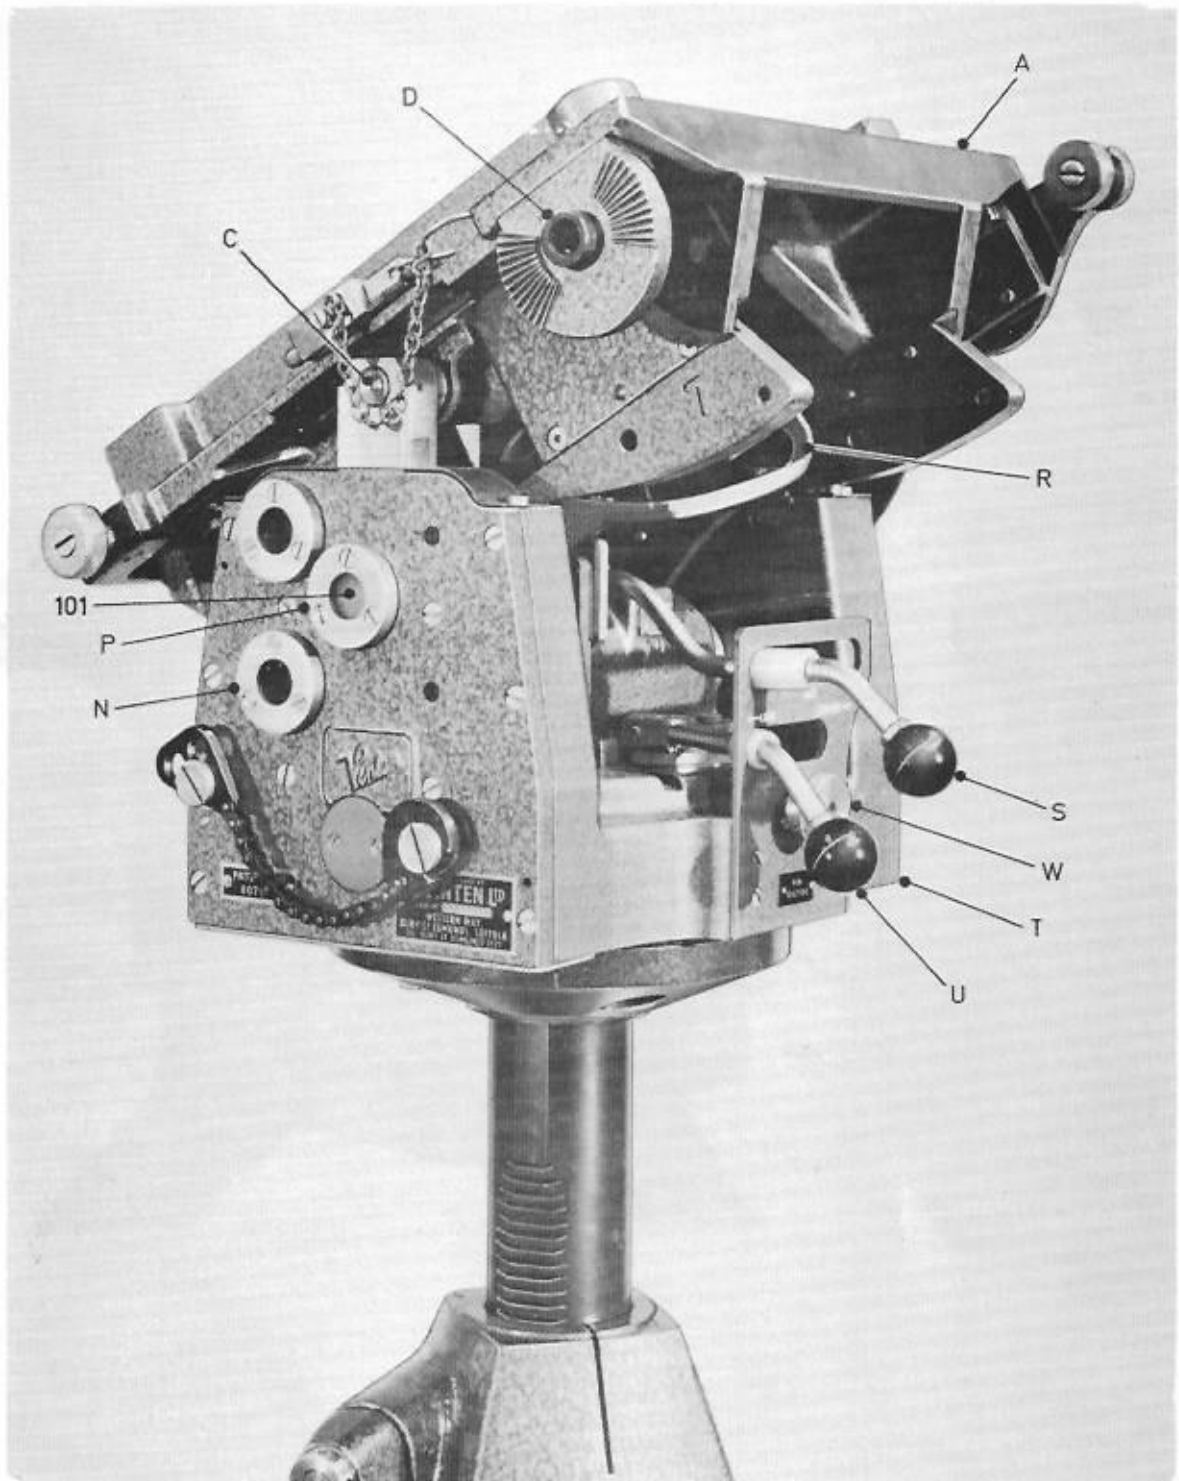
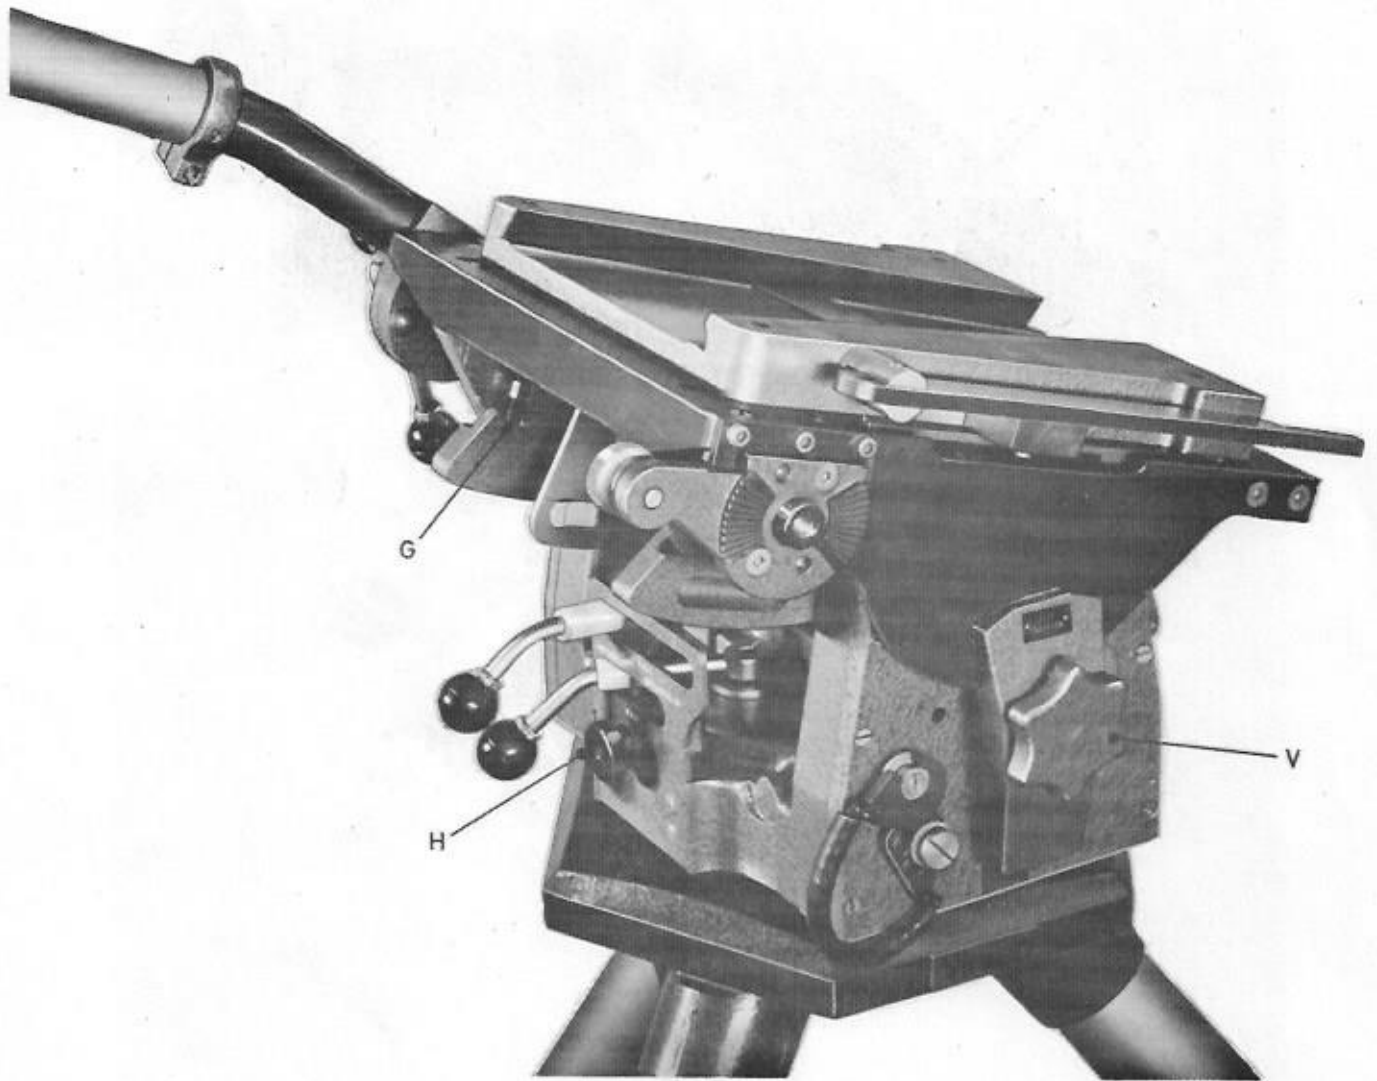
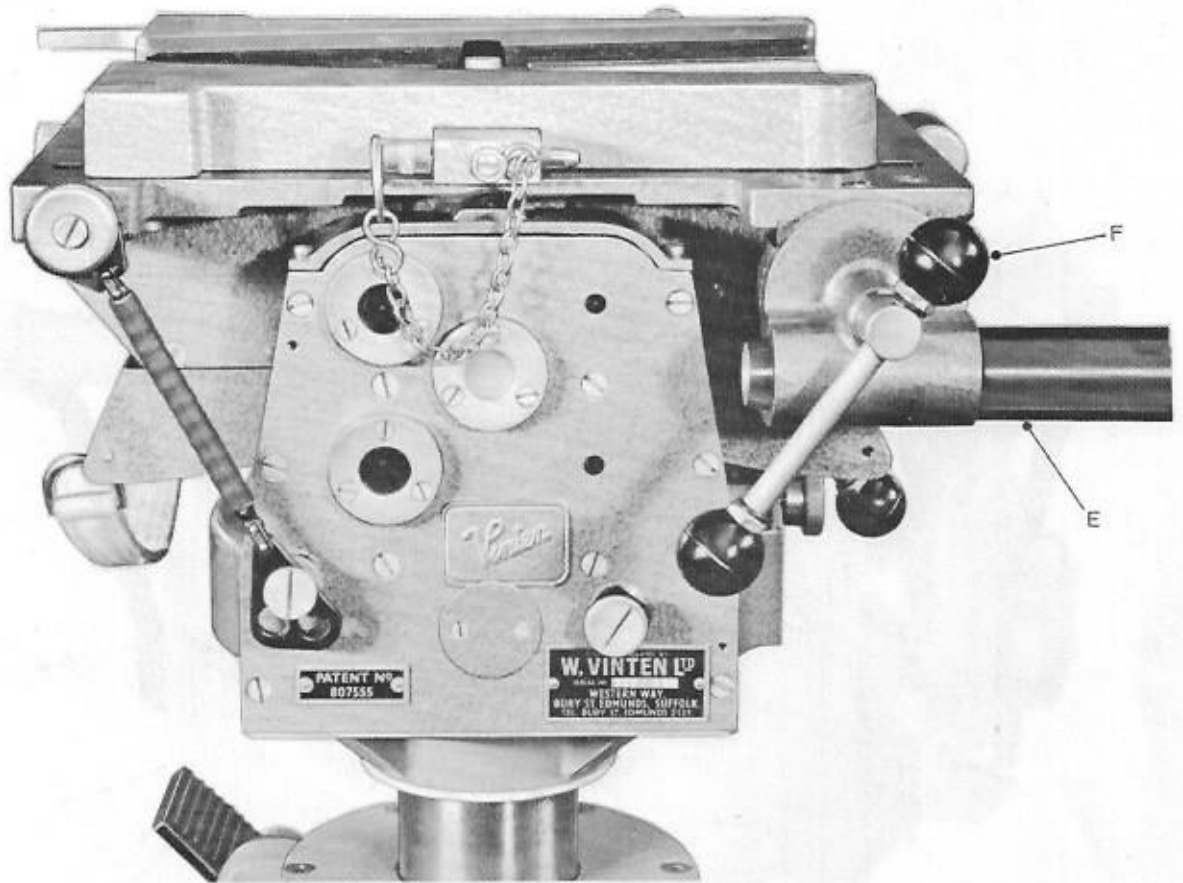

Fig.1 General View
Fig.2 Right Hand View
Fig.3 Left Hand View
### 1.1 INTRODUCTION (Fig. 1)
The camera platform (A, fig. 1) is a flat surfaced casting with two identical cam surfaces (B, fig. 4) bolted to the underside. These cams rest on steel rollers (C, fig. 1) which are mounted on a cross shaft that is rigidly supported by a housing mounted on the base of the head. The cams and rollers support the full weight of the camera and provide the unique features of the Vinten head. Several profiles are available for the cams to suit cameras having a Centre of Gravity, measured from the camera base of 5, 7, 8, 9, 10 and 11 inches.
A heavy bracket (D, fig. 1) is fitted to the back corner of the platform, this acts as an attachment for the pan bar (E, fig. 3). Radial serrations on the mating faces of the bracket permit the pan bar to be locked positively to the platform at any one of a large range of angles. The ball-ended tommy bar (F, fig. 3) is used to tighten the clamping bolt.
A Vinten Camera Wedge Adaptor Plate is normally used with the Type IIIA head. The adaptor plate is free to slide in a fore and aft direction on the top surface of the platform, but is restrained from doing so by four socket-head screws that project downwards through slots in the platform. These screws may be locked by a key (G, fig.2) that is clipped, when not in use, to the platform casting.
Four steel pins are held within each side member and on these are mounted ball races that support the vertical guide bars. The ball races aft of each guide bar are on fixed centres, but the pins within the front races have an eccentric centre portion. These pins are headed and the heads are located outside the side plates by clamping rings (N, fig. 1). By slackening these rings the pins may be turned, thus advancing the ball races and positioning the guide bars with complete accuracy. Two holes have been drilled in the head of each pin, this enables the pins to be turned with a special key.
A third ring (P, fig. 1) on the left hand side of the head retains a plastic stop, this stop engages with a cheese-head screw at the bottom of the left hand guide bar, thus limiting the upward movement of the bar, and setting the limits of the up and down tilt.
Within the brake drum is an internally expanding brake having one leading and one trailing shoe. These shoes rest (at one end) upon an expander, this expander consists of a cam mounted on a short vertical shaft, and the shaft projects through the casting and carries a lever and knob (U, fig. 1) which works through the gate and forms the Pan Lock.
A pair of friction shoes, operated by a knurled lead screw (W, fig. 1) adjuster, are fitted to the head. These shoes provide even tension during panning, and also serve to minimise back lash that occurs when a change of panning direction is made.
The base (T, fig. 1) of the head is a hollow casting bored out to form a circular housing for a heavy ball thrust race. This is supported upon a static, circular base, that is bolted down to its support by four bolts. Alternatively, a four armed spider can be bolted to the bottom of the base which is provided with a centre screw fixing.
A vertical plate (R, fig. 1) is attached to the underside of the camera platform, this plate has a milled slot similar in shape to the cam profile; and a clamping device passes through this slot.
The clamp consists of a friction plate pulled up against the inside of plate R by an over-centre cam. The cam is operated by a lever (S, fig. 1) working through a gate, and clamps the plate against a brake pressure pad.
The head is fitted with a side-mounted tilt friction shoe (item 49, fig. 5) together with a suitable adjustment knob (V, fig. 2). This enables tilt friction to be applied through a quadrant plate that is attached to the camera platform, so that even friction can be applied over the whole traverse of the head regardless of camera angle.
The tilt lock (S, fig.1) and the pan lock (W, fig.1) are both locked by movement to the left and unlocked by movement to the right. The tilt friction adjustment (V, fig.2) and the pan friction adjustment (U, fig.1) are rotated clock-wise to increase the friction.
- (1) Loosen the three screws in each clamping ring (N, fig. 1).
- (2) Rotate, clockwise, the headed shafts, using a special spanner, until all side play is eliminated from the vertical guide bars, a check can be made by extending the bars and attempting to rock them by hand.